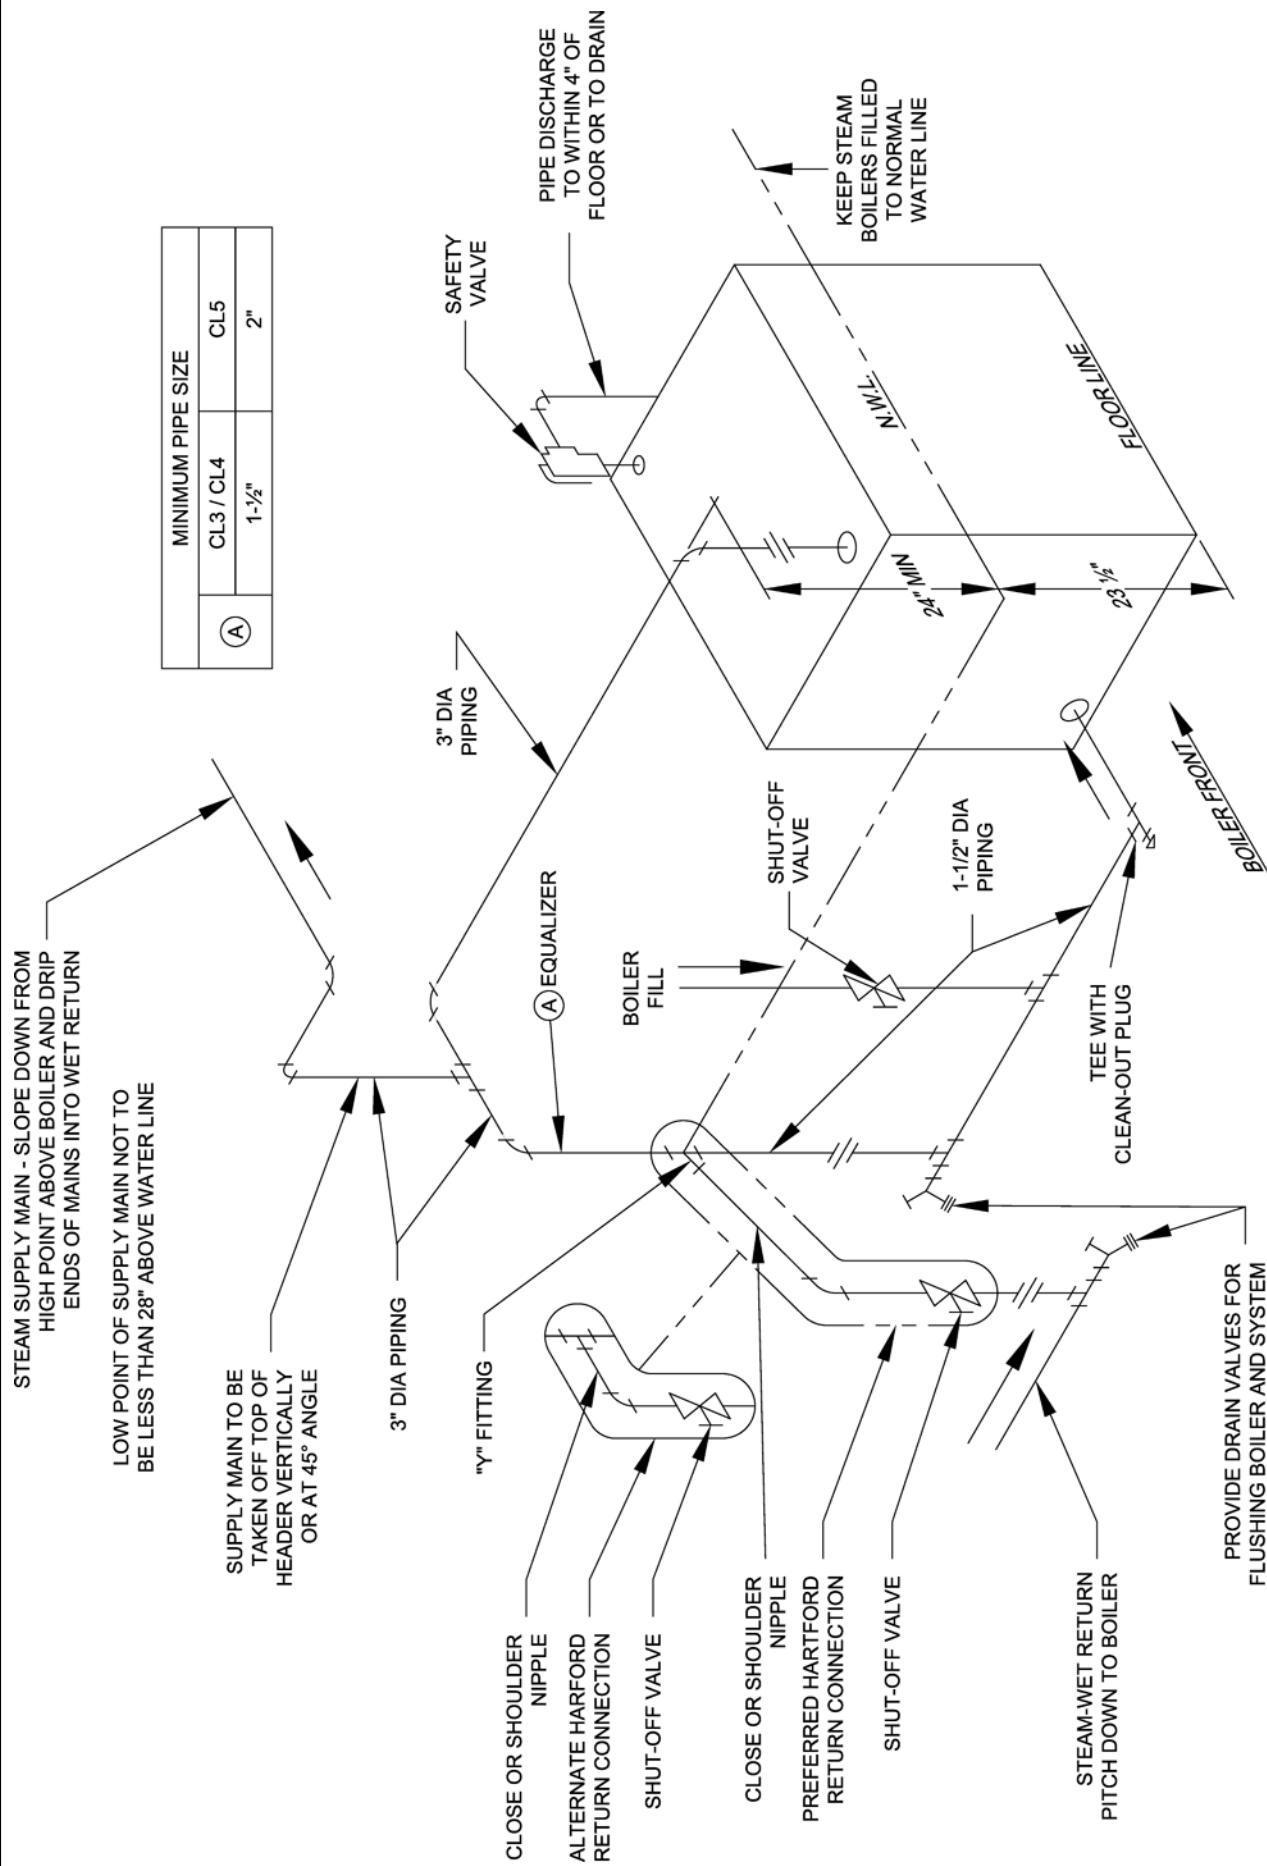

Figure 13: Recommended Boiler Piping for Gravity Return Steam Boiler
1. **Thread ¾" MPT safety valve** and ¾" NPT coupling onto factory installed ¾" NPT x 7¼" nipple located in left rear corner on top of boiler as shown in Figure 1C. Tighten with wrench. Pipe discharge as shown in Figure 13. Installation of the relief valve must be consistent with ANSI/ASME Boiler and Pressure Vessel Code, Section IV.
2. **Install ¾" drain valve** in wet return piping as shown in Figure 13.
- a. For Recommended STEAM BOILER PIPING refer to Figure 13. Also, consult I=B=R, "Residential Hydronic Heating Installation and Design Guide".
1. **Connect Indirect Water Heater Piping** as shown in Figures 12A and 12B for water boilers and Figures 13 and 16 for steam boilers. Refer to Indirect Water Heater Instruction Manual for additional installation information.